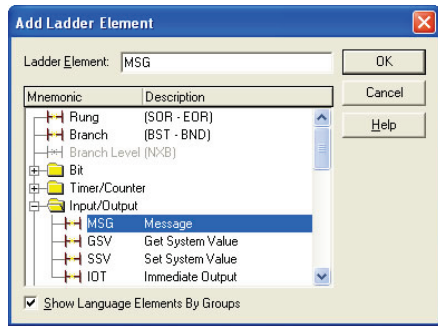

Figure 67: Adding a MSG Instruction
- d) Select the "MSG" instruction in the Input/Output folder. Refer to Figure 67.